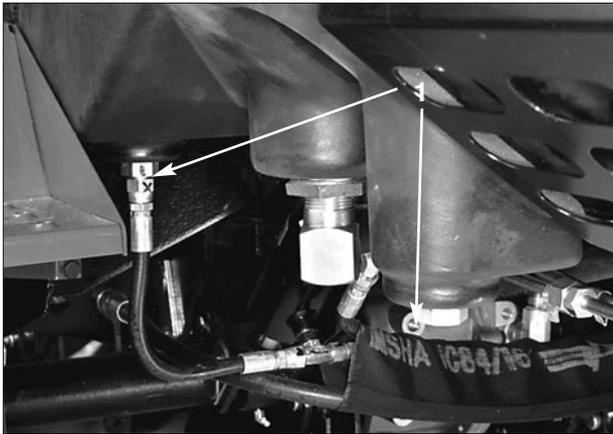

Figure 47
- 2. Remove the drain plug from the rear of the reservoir and hydraulic line from front of reservoir (Fig. 47) and let hydraulic oil flow into the drain pan. Reinstall and tighten the plug and line when